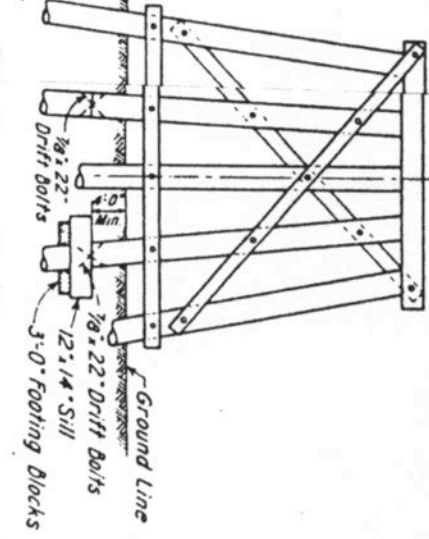

FIG. 3
3. (a) Single piles shall be spliced as illustrated in Figs. 3 and 5. On branch lines, two alternate piles in a 4-pile bent may be spliced as shown in Fig. 3 when trestle is not over 12 feet high and on tangent track, and in other cases when authorized by Chief Engineer.
- (b) When condition of pile below ground is not satisfactory for making splice per Fig. 3, method shown in Fig. 4 will be permitted, one to a bent.